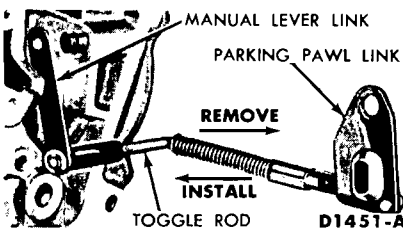

FIG. 63—Removing or Installing Parking Pawl Toggle Rod
9. From the back of the transmission case, install the parking toggle rod and link assembly into the case (Fig. 63).
3. From the back of the transmission case, remove the parking pawl link, toggle rod, and manual lever link as an assembly (Fig. 63).